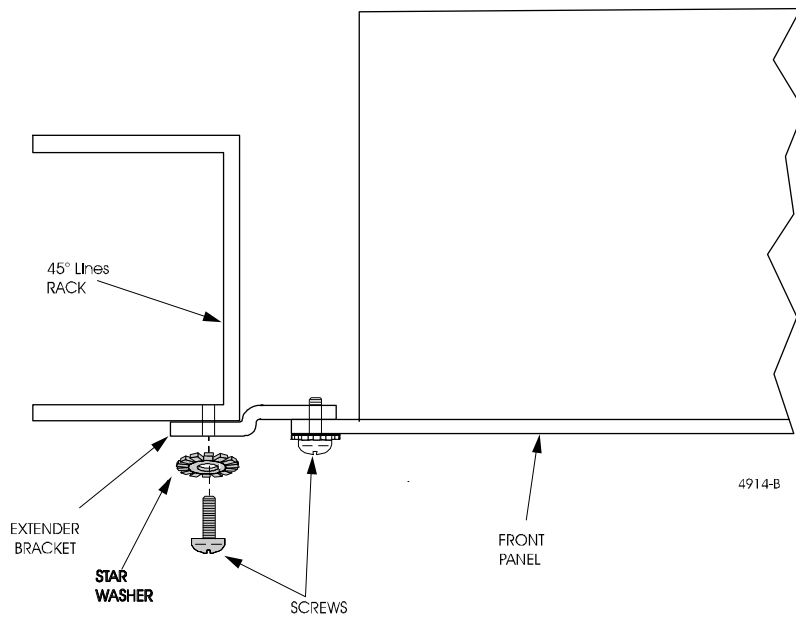

Figure 502-1. Installing 19-to-23-Inch Rack Extender Brackets
4. Attach a 19-to-23-inch extender bracket EB10P (Figure 502-1) to each side of the front panel using two 12-24 by 1/2-inch binding-head machine screws with external tooth star lock washers.